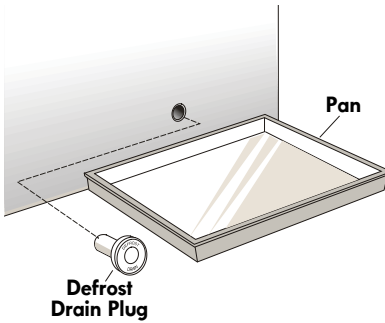
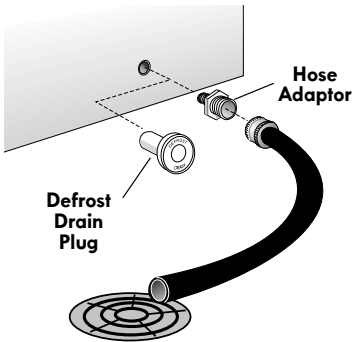

Figure 1
Figure 2
- Place a shallow pan or the Divider/Drain Pan (if equipped) beneath the drain outlet. Pull out the outside drain plug (see figure 1). A $\frac{1}{2}$ inch garden hose adapter can be used to drain the freezer directly into a floor drain (see figure 2). If your model is not equipped with an adapter, one can be purchased at most hardware stores.